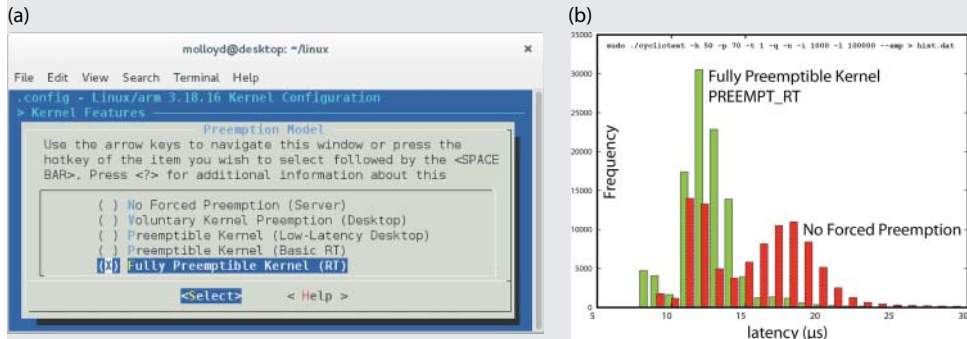

Figure 7-15: (a) The PREEMPT_RT menuconfig option (b) The results histogram of the `cyclicttest` under load
- In the Kernel Features menu, you can see that the number of CPUs is set at 4 for the RPi2/3. You can alter the Preemption Model in the same menu (see Figure 7-15(a)).
In Figure 7-15(a), the RT patch has been applied, which results in a new option for a fully preemptible kernel in the `menuconfig` tool.
The patched kernel can be deployed using the steps that follow in this section. On `reboot`, `uname -a` should display a message that includes RT. Figure 7-15(b) illustrates the `cyclicttest` results histogram of the fully preemptible kernel in comparison to a kernel with no forced preemption. These kernels were tested under load by using the